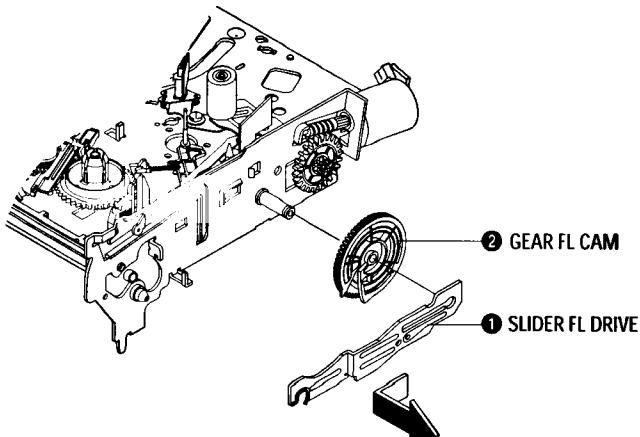

Fig. 1-6 Slider FL Drive Removal
- 1) Pull the Slider FL Drive ① to the front direction.
- 2) Remove the Slider FL Drive ① in the direction of arrow. (Refer to Fig. 1-6)
- 3) Remove the Gear FL cam ②.